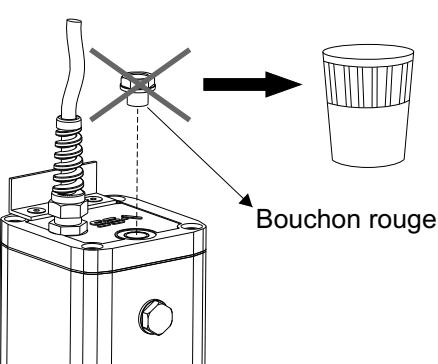

Fig. 24
6. REMPLACEMENT BOUCHON D'ECHAPPEMENT (Fig.24)